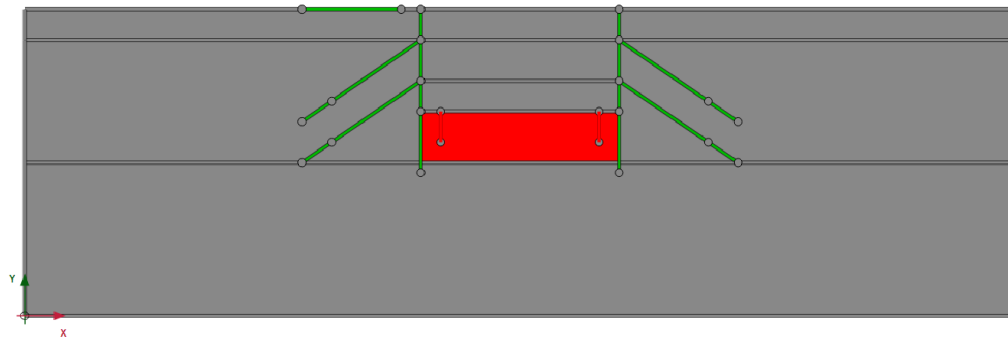

Figure 129: Indication of the local refinement of the mesh in the model
2. Select the cluster and two wells as shown in the Figure 129 (on page 149). In **Selection Explorer** specify a **Coarseness factor** of 0.25.